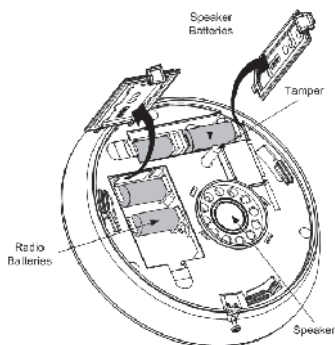
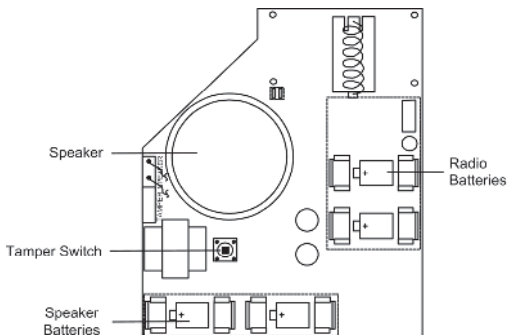

Figure 2: Inserting the batteries
Figure 3: Inserting the batteries #2
4. Insert the batteries while paying attention to polarity (see Figure 2 and Figure 3).